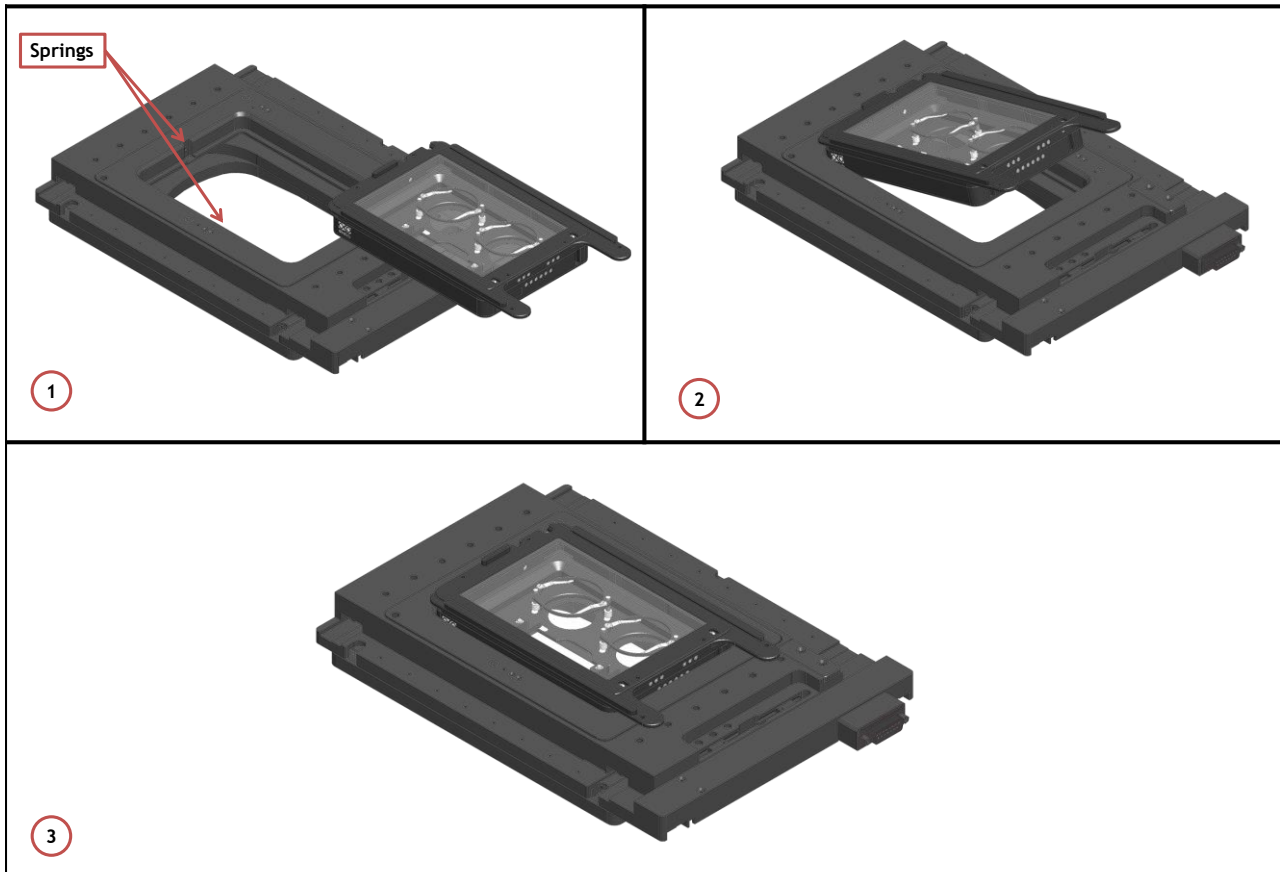

Figure 23. Connection of the Chamber with XY Stage
H201-K-FRAME fits on the XY Stage without any screws. To fix the chamber on the stage, follow the steps shown in Figure 23.
1. Place the chamber on the stage (See Image 1 of Figure 23).
2. Incline the chamber and slide it in direction of the springs until it snaps into the housing. (See Image 2 of Figure 23).
3. Image 3 of Figure 23 shows the chamber fitted on the XY Stage.